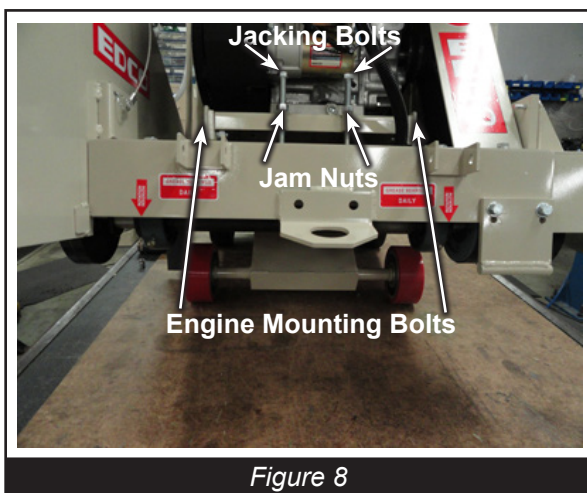

Figure 8
- Lower the blade by depressing the blade lift/lower switch (*Figure 8*) until it just touches the slab surface. When blade touches, set the depth indicator to zero.
- Loosen engine mount mounting bolts and jam nuts, then turn jacking bolts to lift or lower engine mount. Lift engine to tighten belts lower engine to loosen/replace belts. (Figure 8)
- Remove belt guard and arbor guard. Loosen engine mounting bolts and jam nuts, turn jacking bolts to lower engine (Figure 8) to a point where the belts can be removed.